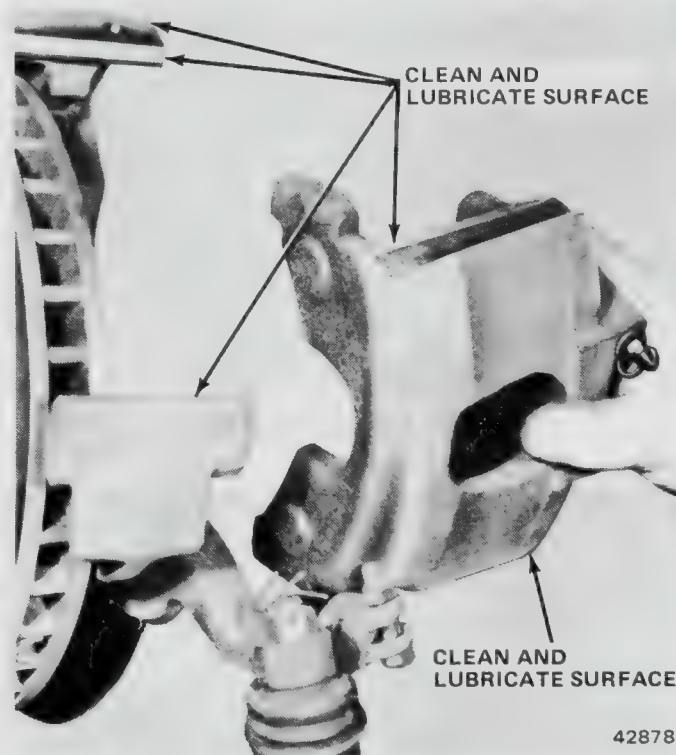

Fig. 2F-27 Caliper and Anchor Plate Abutment Surfaces
(1) Install inboard brakeshoe anti-rattle spring on rear flange of inboard brakeshoe. Be sure looped section of spring faces away from rotor (fig. 2F-28).
(2) Install assembled inboard brakeshoe and anti-rattle spring in caliper anchor plate (fig. 2F-29). Do not dislodge anti-rattle spring during shoe installation.
(3) Install outboard brakeshoe in caliper (fig. 2F-30).